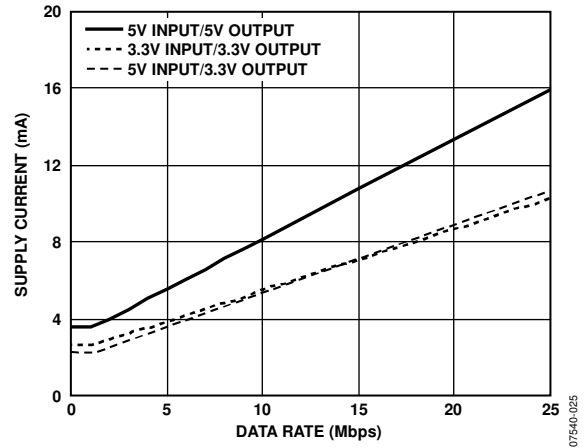
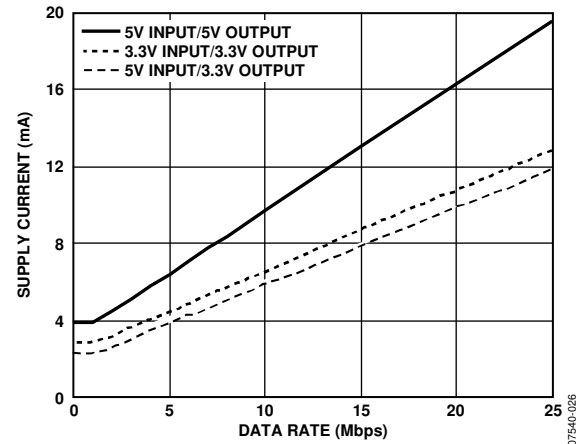

Figure 19. Typical I_{CHN} Supply Current per Forward Data Channel (15 pF Output Load)
Figure 20. Typical I_{CHN} Supply Current per Reverse Data Channel (15 pF Output Load)
Both dynamic input and output current is consumed only when operating at channel speeds higher than the rate of f_r. Because each channel has a dynamic current determined by its data rate, Figure 19 shows the current for a channel in the forward direction, which means that the input is on the primary side of the part. Figure 20 shows the current for a channel in the reverse direction, which means that the input is on the secondary side of the part. Both figures assume a typical 15 pF load. The following relationship allows the total I_{DD1} current to be calculated:
- I_{CHn} is the current drawn by a single channel determined from Figure 19 or Figure 20, depending on channel direction.
- I_{ISO(D)n} is the dynamic load current drawn from V_{ISO} by an input or output channel, as shown in Figure 19 and Figure 20. Data is presented assuming a typical 15 pF load.